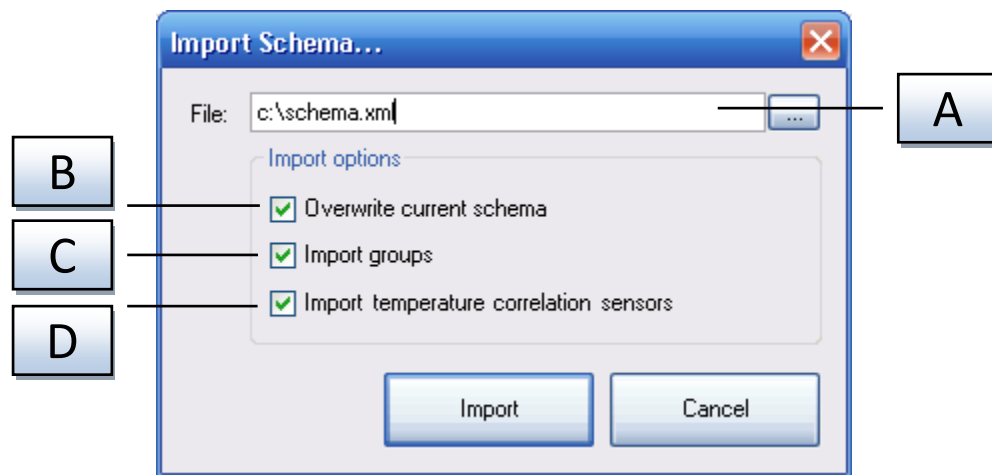

Figure 10-3 - Import schema dialog
2. The schema import dialog will appear. Refer to FIGURE 10-3 - IMPORT SCHEMA DIALOG and TABLE 10-1 - IMPORT SCHEMA DIALOG FIELDS for details on completing the dialog.